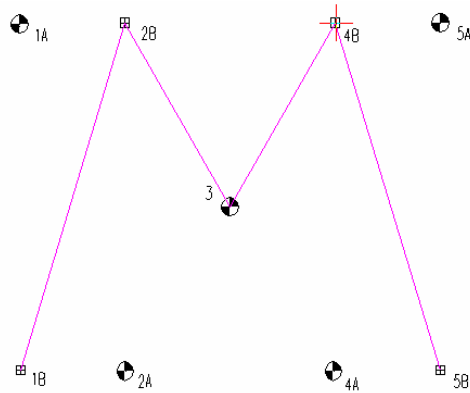

Figure 3.5: Completed *M*
15. Repeat the above steps moving points “2A to 2B, 4A to 4B, and 5A to 5B. The **W** has changed to an M as shown in the Figure 3.5.